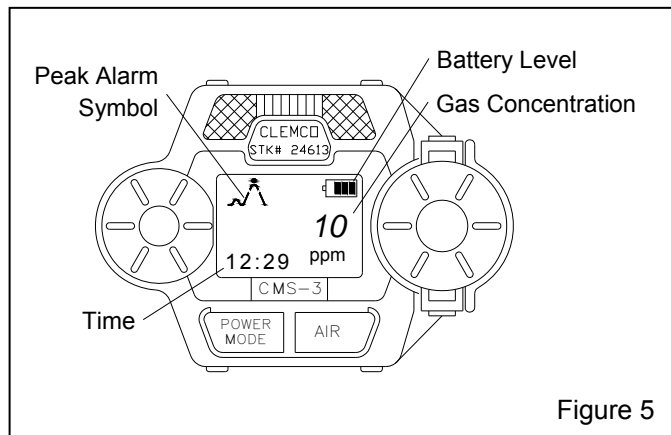

Figure 5
This section describes the normal operation of the CMS-3, and includes alarm indications. Ref. Figure 5
**3.6.5** The LCD should display the Low (LO) Alarm setting (10 ppm), the battery level, and peak alarm symbol as Shown in Figure 5. *NOTE: If the LCD shows “CAL” in the lower left corner, the CMS-3 is in Calibration Mode. Press and hold the POWER/MODE button to turn off the unit. Repeat the process beginning with Paragraph 3.6.2.*